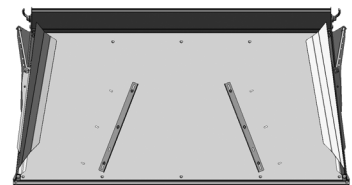

Figure 4
- 4) **Inner Deflecting Fins.** See Figure 4